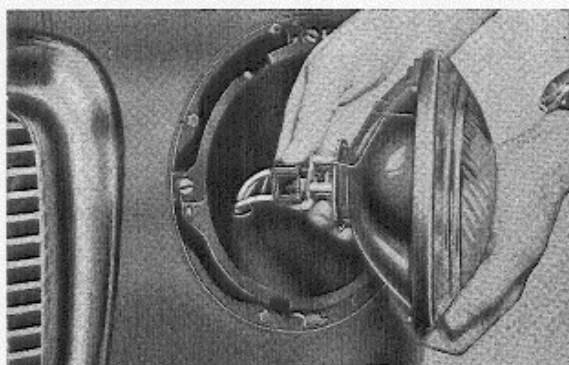

Fig. 13. Removing contact plug.
3. Remove the contact plug from the bulb holder by pulling it straight out as shown in Fig. 13.